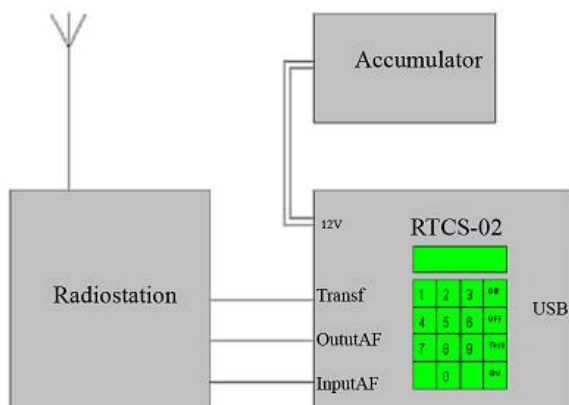

Fig.3.
- at off-line mode by unit keyboard (fig.3).